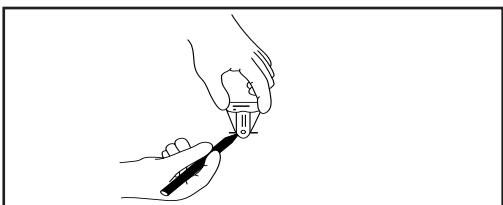

FIGURE 9
- f) To determine the exact location of the MAGNA-SITE™, turn the MAGNA-FINDER™ 90° and again, slowly move the MAGNA-FINDER™ back and forth. When the magnet locator is again perpendicular, make two more marks, as shown in Figure 9.